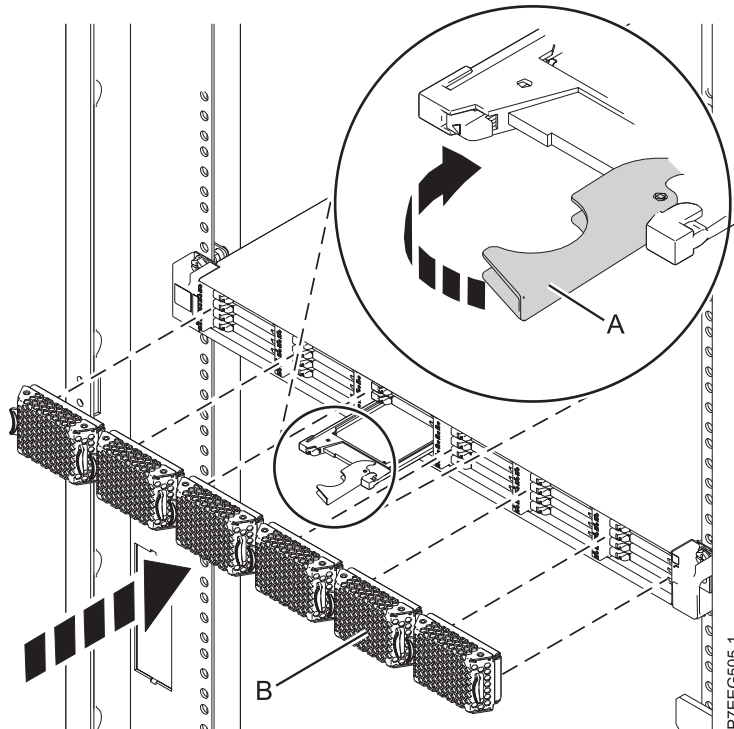

Figure 20. Replacing a solid-state drive in the EDR1 PCIe storage enclosure.
4. When the solid-state drive identify LED flashes, slide the solid-state drive all the way into the EDR1 PCIe storage enclosure until it is fully seated. Then rotate the handle (A) to the locked position. See Figure 20 on page 33.
5. Install the bezel (B).